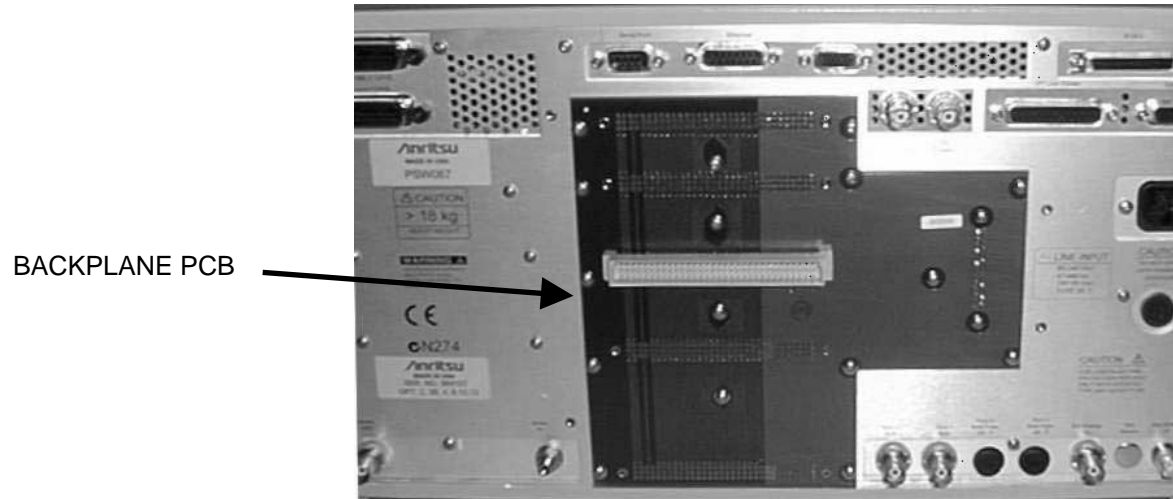

Figure 7-16. *Backplane PCB Removal*
5. Remove the backplane PCB mounting screws (Figure 7-16).